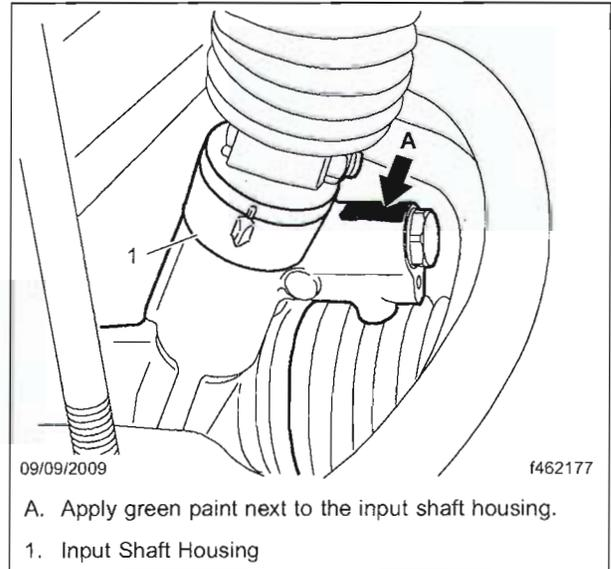

Fig. 10, Paint Mark Location
30. Using *green* paint, mark the top of the rack and pinion gear near the input shaft to indicate that the gear has been repaired. See **Fig. 10**.